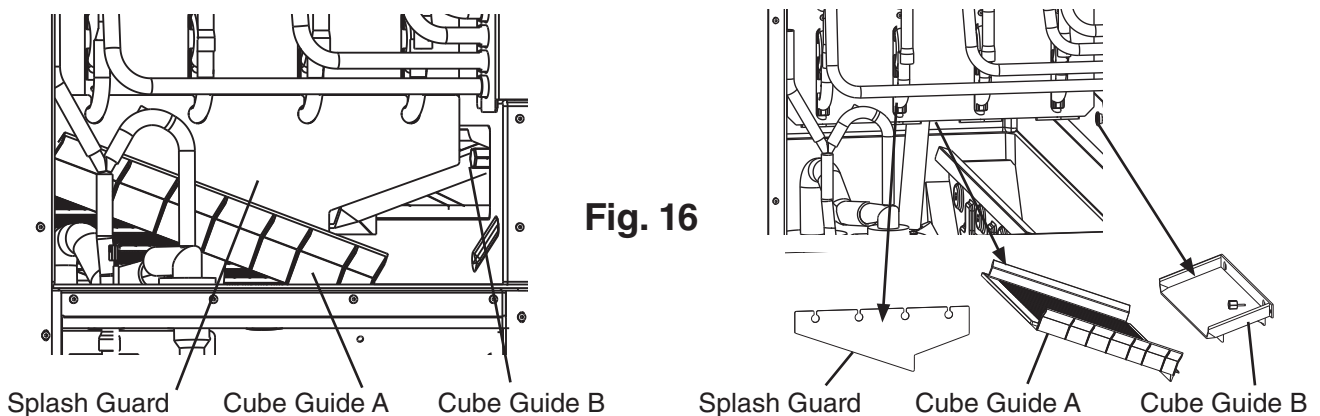

Fig. 16
- 13) Remove the splash guard and cube guide B. See Fig. 16. Next, slide cube guide A to the right and pull forward to remove cube guide A. **NOTICE! The rear evaporator plastic bracket must be pulled forward and up to allow removal of cube guide A.**